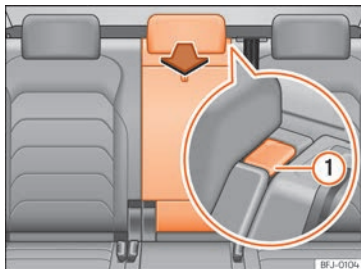

Fig. 165 On the rear seat backrest: opening the tailboard for long objects.
- Press the unlocking button » **Fig. 165** ① and fold the tailboard forward » ⚠.